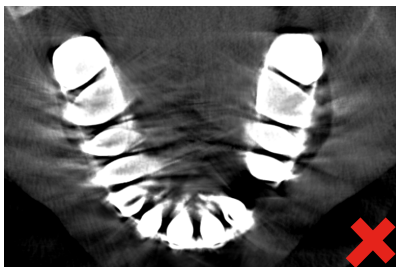

Figure 3: Metal artifacts
- Ensure that at least four teeth per quadrant do not have any metal artifacts (please see figure 3).